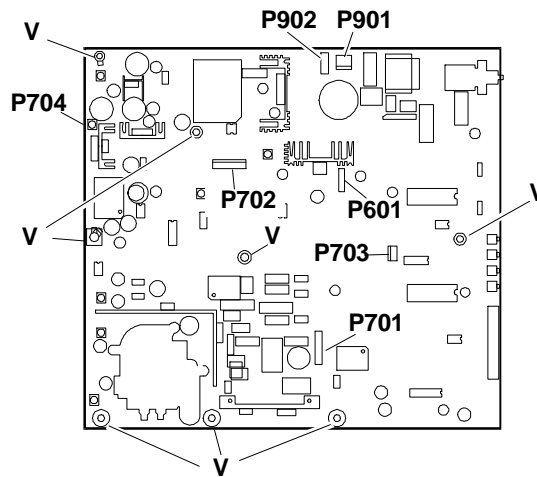

Fig. 29-7 Motherboard Connectors and Screws Position
13. To separate the motherboard from the plastic support, unscrew the screws indicated in figure 29-7; then turn over it and unscrew the 3 screws located under the FBT transformer. Turn over the motherboard again and remove it from the plastic support by pushing on the hooks (G).